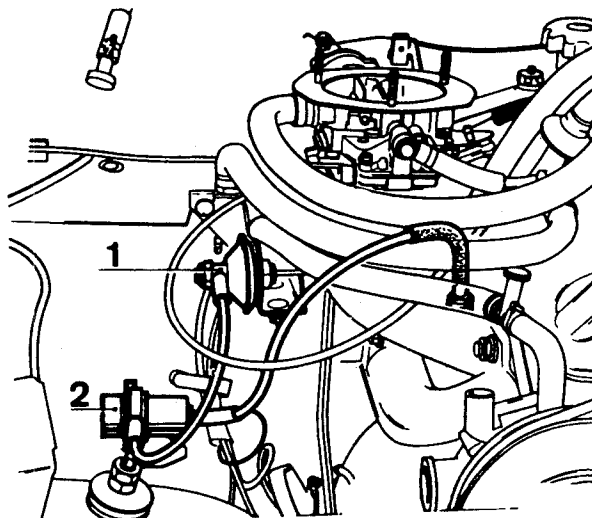

FIG.1.6 COMPONENTS OF THE ANTI-POLLUTION DEVICE FITTED TO MODEL 1152 FOR THE USA
28 With 1152 - 1153/821 engined models, disconnect the vacuum pipe on the 'Master-Vac', servo brake unit. Model 1152 models (North American Market) are fitted with anti-pollution device. Pull pipe from the capsule (1) Fig.1.6 and the vacuum pipe from the solenoid flap valve (2). A full description of this system is given in Chapter 3, Section 26.